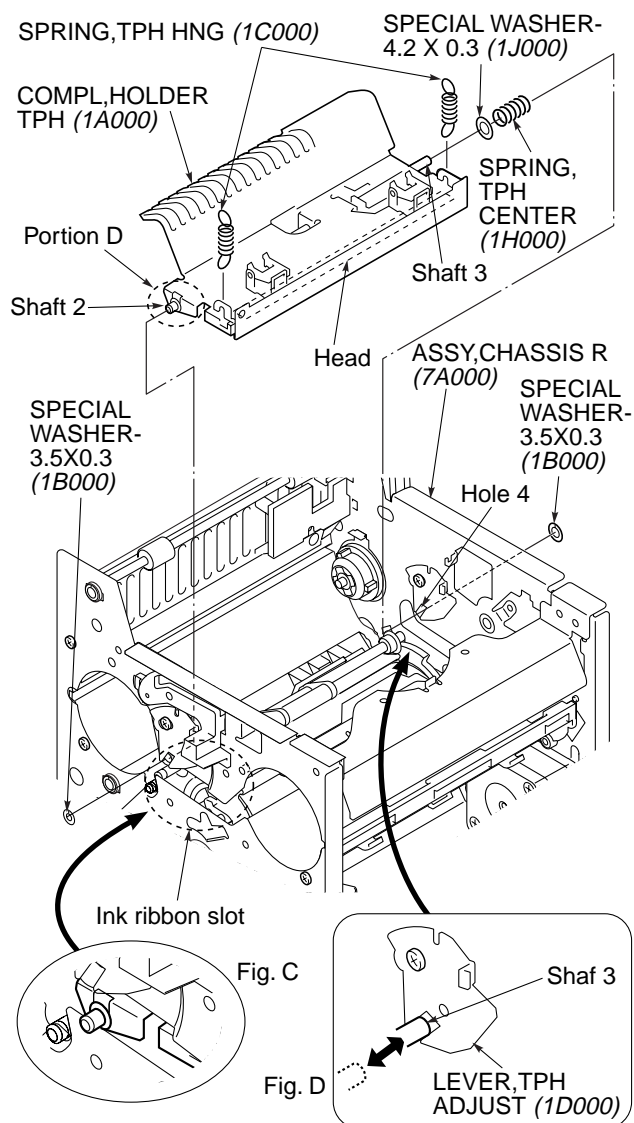

Fig. 3-3-3
- 1) Remove the two "SPECIAL WASHER-3.5X0.3 (1B000, 1J000)". (Refer to Fig. 3-3-3.)